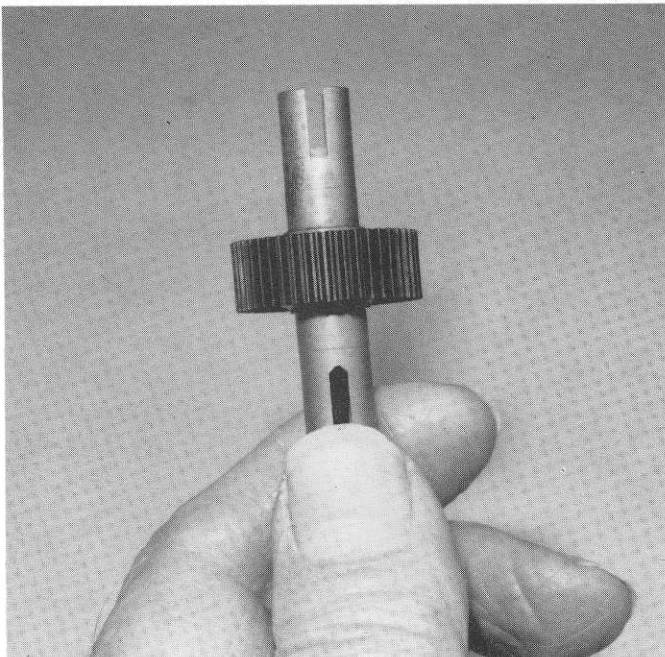
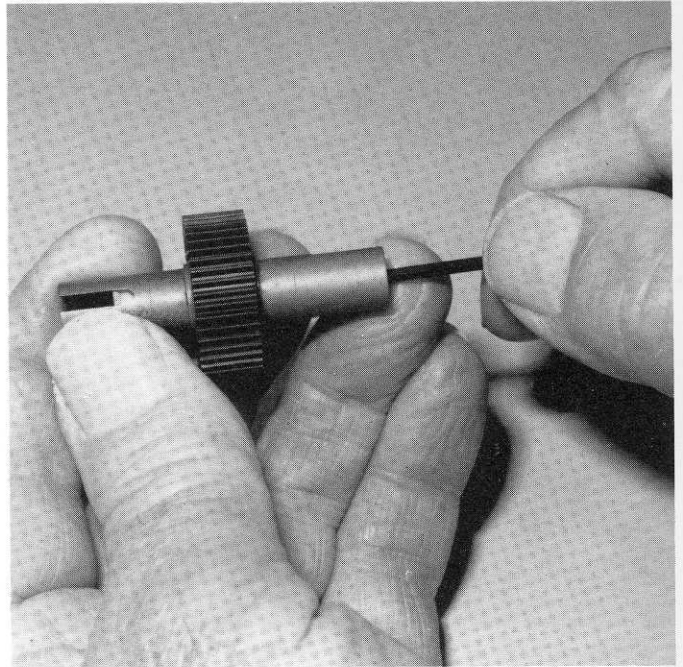

Fig. 54
Fig. 55
□ **Fig. 54** Now start to tighten the bolt with the Allen wrench, making sure the hubs and drive rings stay centered. Do this very slowly. We want to make sure everything stays centered. We'll finish the tightening in the next step with figs. 55 & 56.
□ **Figs. 55 & 56** Continue tightening slowly until the spring is just about completely collapsed. DON'T OVER-TIGHTEN! Correct adjustment is bottoming the spring and then backing off 1/8 to 1/4 turn.